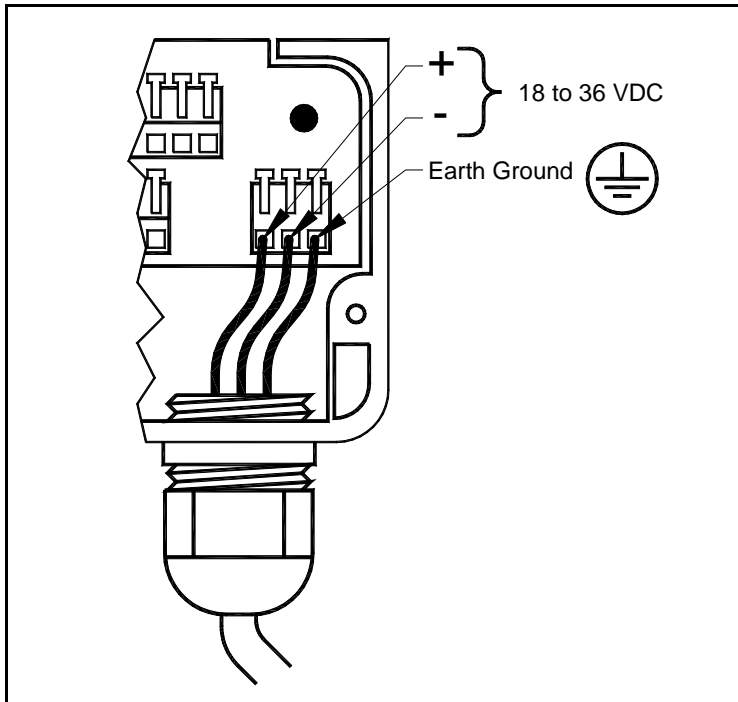

Figure 19: DC Power Wiring
3. Connect the wires to the J2 terminal block: Positive (+) to Pin 1, Negative (-) to Pin 2, and Earth Ground to Pin 3 as shown in Figure 19 below. Voltage ranges from 18 to 36VDC are supported.